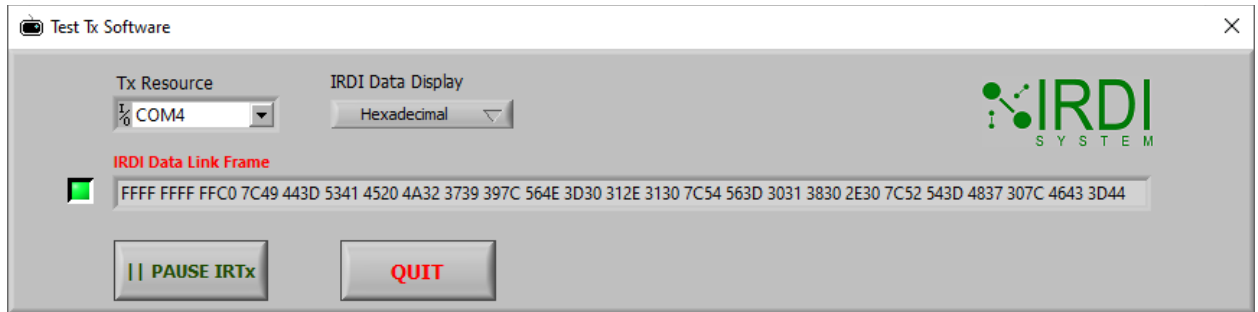

FIGURE 5-8: HEXADECIMAL DISPLAY
STEP 1	To display the data in “hexadecimal” format, click on the button under “IRDI Data Display Format”, then select “Hexadecimal” from the pull-down menu as in Figure 5-8.